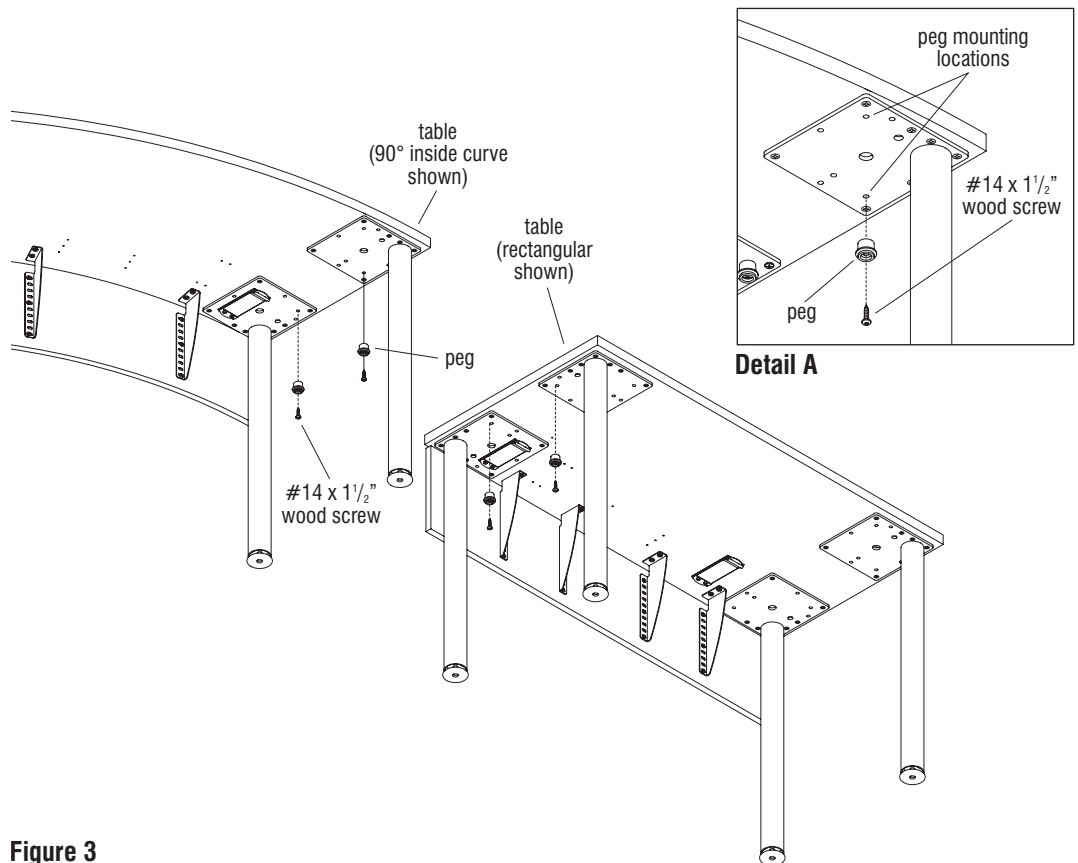

Figure 3
1. With the tables to be ganged in the upright position, move the table's ganging sides near each other (Figure 3).
3. Install a peg to each peg mounting location using a #14 x 1½" screw per post leg (Figure 3 & Detail A).